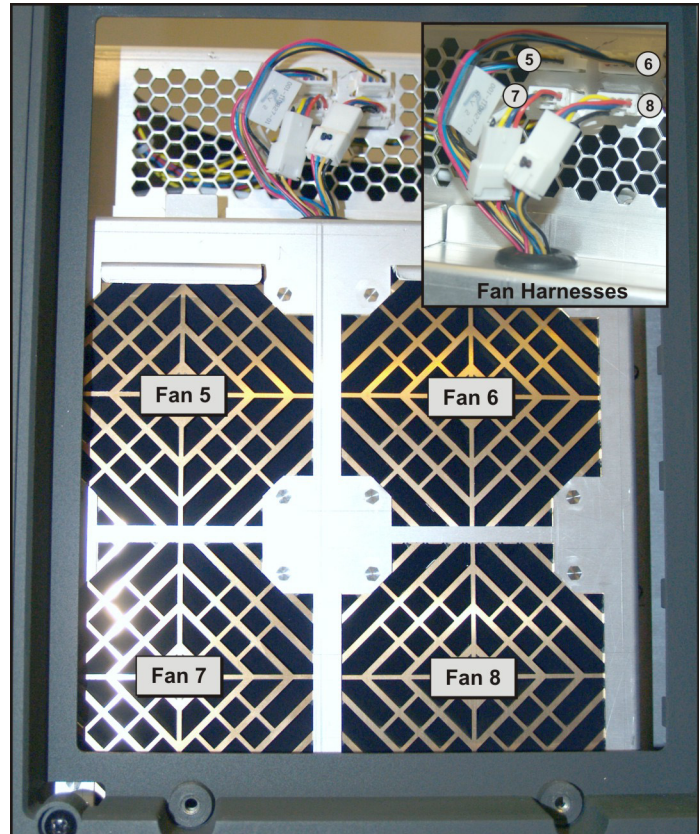

Figure 5-63 Intake Fan Harnesses
4. Disconnect the four fan power harnesses via the inline connectors (**Figure 5-63**). For details, refer to the *Interconnect Drawing*.